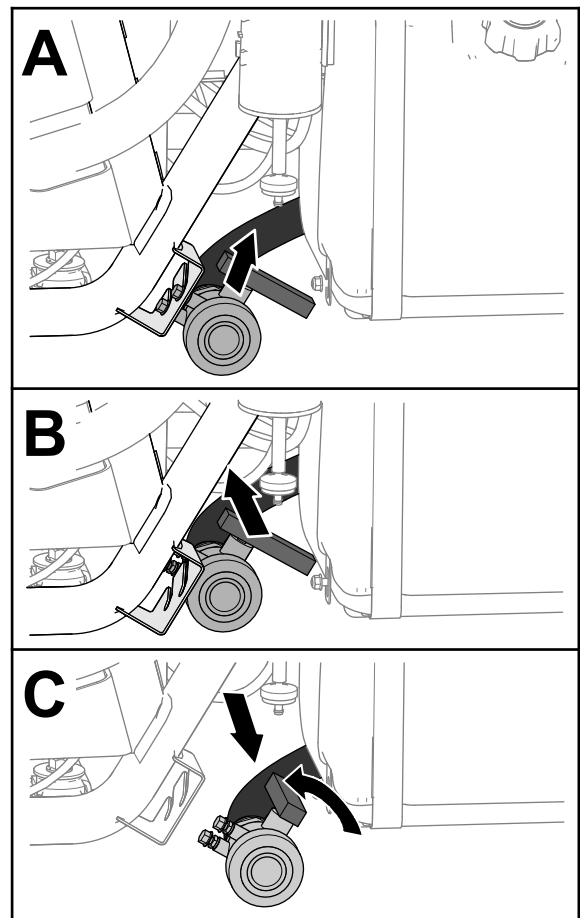

Figure 26
2. Locate the tank-drain valve at the left side of the machine, forward of the fuel tank (Figure 26).
3. Lift the valve and move it inboard until the mount studs of the valve clear the slots in the drain-valve bracket, and move the valve rearward (Figure 26).
- Align the end of the valve with the drain container and rotate valve handle counterclockwise to the open position (Figure 26).
- When the tank has drained completely, rotate the drain-valve handle to the closed position and assemble the valve onto the drain-valve bracket (Figure 26).